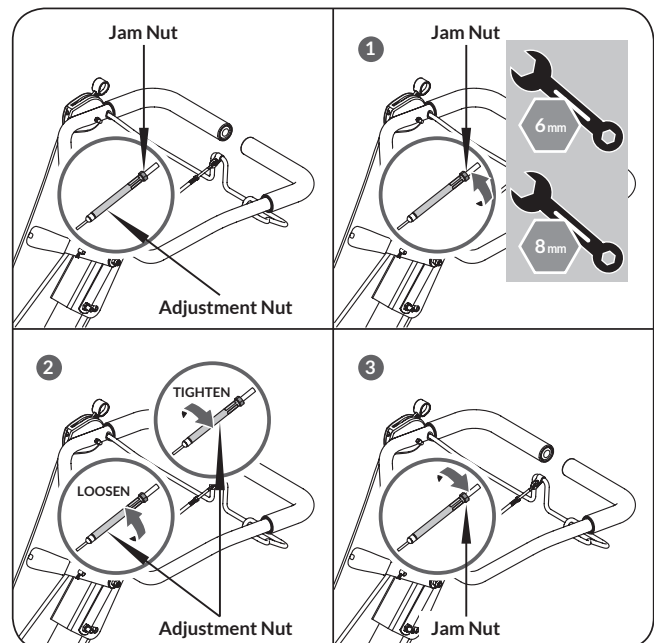

Figure 10
1. Loosen the jam nut by turning it counter clockwise with 8mm wrench while holding the adjustment nut in place with 6mm wrench. (see **Figure 10, Illustration 1**)
2. Tighten (or loosen) the cable by turning the cable adjustment nut clockwise (or counter clockwise) with a 6mm wrench until you have reached your desired tightness. (see **Figure 10, Illustration 2**)
3. Once you have reached your desired cable tightness, tighten the jam nut by turning it clockwise until it is tight. (see **Figure 10 Illustration 3**)